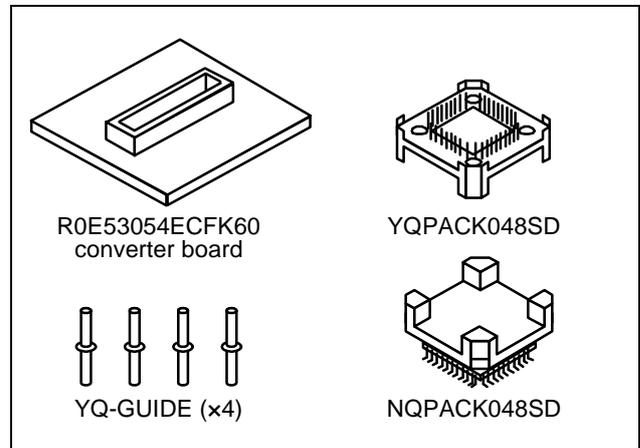

Figure 1 Package components of the R0E53054ECFK60
2. Package Components (See Figure 1)